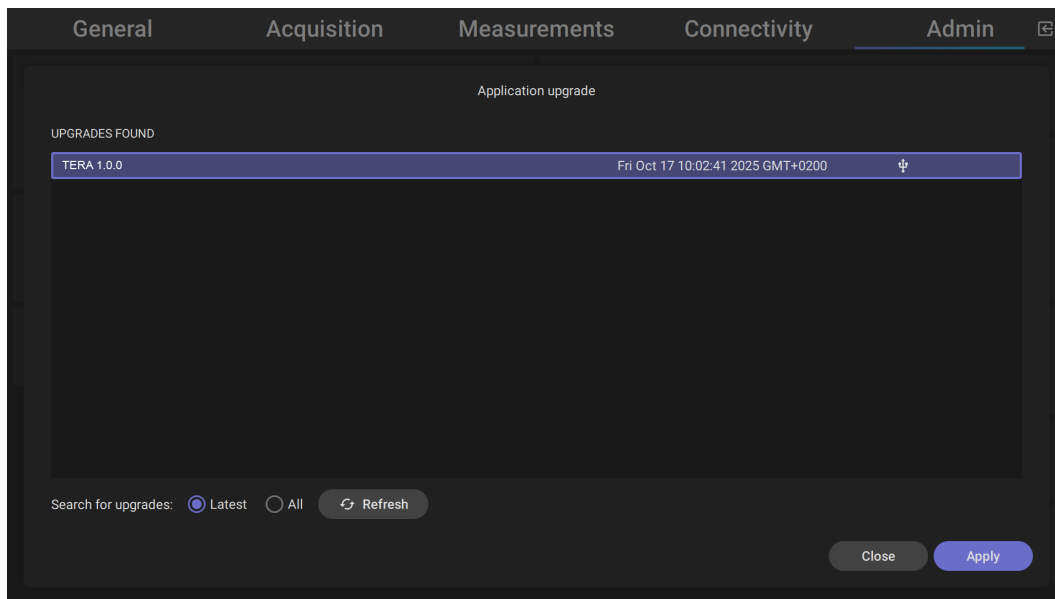

Figure 15.10: Upgrade environment
6. Tap on Upgrade button in APPLICATION section. Figure 15.10 will be shown